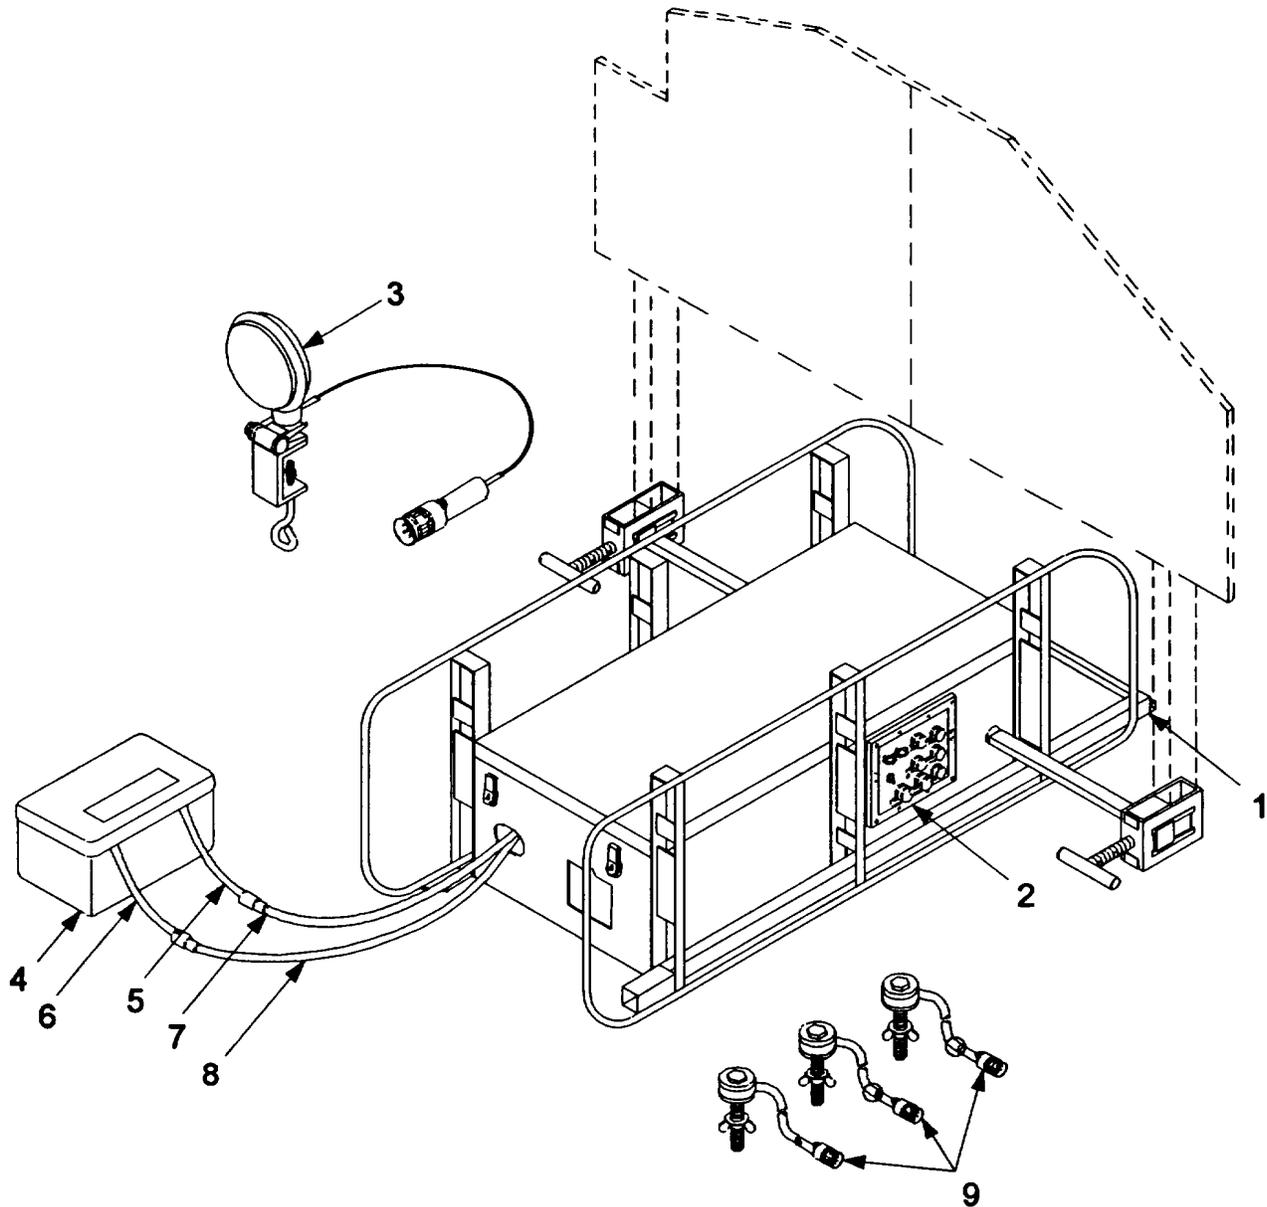

Figure 2-6. Preparation for Use of the Computer-Controlled THM/TG with Battery.
- (12) Position armor target kill simulator in protected area. Clear brush and other flammable material away from ATKS. Connect the simulator to SMOKE SCORER or HOSTILE FIRE connector on control assembly. Connection to the SMOKE SCORER connector activates the ATKS when target is hit and goes down. Connection to the HOSTILE FIRE connector activates the ATKS when commanded to do so by the radio controlled transmitter.
b. **Assembly and Preparation of Computer-Controlled THM/TG with Battery.** To assemble and prepare the computer-controlled THM/TG with battery for operation, refer to figure 2-6 and FO-2 and perform the following steps:
- (1) Extend the stabilizer assembly (1).
- (2) Remove access door. Disconnect proximity switch cable P3 from control assembly (2) and connect it to P4 of cable W107 from the target interface unit (TIU). Connect P2 of cable W107 to P3 on the control assembly. Connect P3 of cable W107 to the SMOKE SCORER or HOSTILE FIRE connector on the front of control assembly. If P3 is connected to the SMOKE SCORER connector and the ATKS is connected to the TIU, the ATKS will activate when the target is hit. If P3 is connected to the HOSTILE FIRE connector and the ATKS is connected to the TIU, the ATKS will activate when programmed in the scenario.
- (3) Remove 14 screws, lockwashers, and flatwashers and remove cover from hydraulic unit. Remove breather and check fluid level. Level should be within 1/2-in (13 mm) from top. Install breather. Apply a bead of white petroleum to hydraulic unit cover gasket and install cover. Install access door.